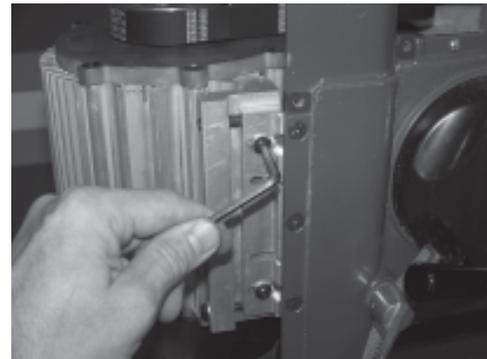

Figure E-3
10. Loosen the two Tension Locking, button head screws (522660) in each Motor Mount Assembly, on both sides of the Motor. Loosening these screws will allow you to reduce or increase the tension on the Poly-V Motor Drive Belt (522610). See Figure E-3.